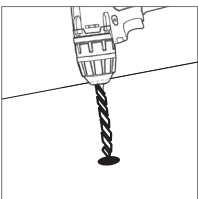
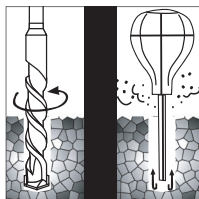

Figure 6
Figure 7
6. Move the safe aside to clear the marked spot for drilling. Then drill a $\frac{5}{8}$ in./16mm diameter hole with a depth of $2\frac{1}{8}$ in./54mm and remove any excess dust (Figure 6 and Figure 7).